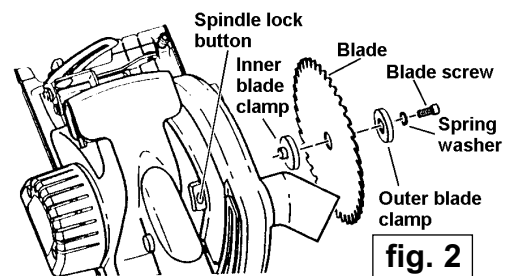

fig. 2
- 3.2.1. Depress the spindle lock button (see fig.2) and slowly turn the blade screw with the hex. key provided (see fig.4.K) until the spindle is locked. Keep lock button depressed.
- 3.2.3. Fit new blade, ensuring that the teeth point in the same direction as the arrow on the blade guard. Refit clamps, washers and blade screw, as shown in fig.2, and tighten blade screw with hex. key, having re-engaged spindle lock.